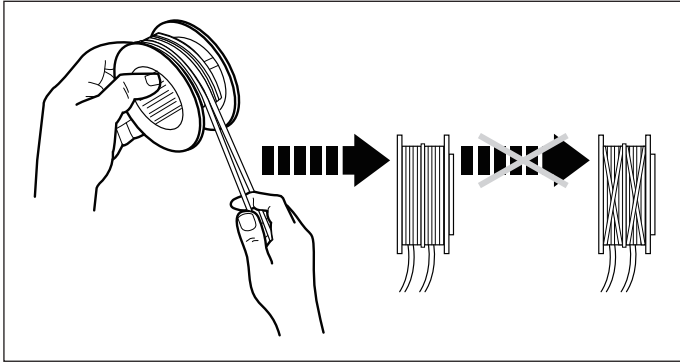

Fig. 21d
10. Wind the two parts of the trimming line in clockwise direction firmly around the spool each part in the guide on the spool. (See Fig. 21d)